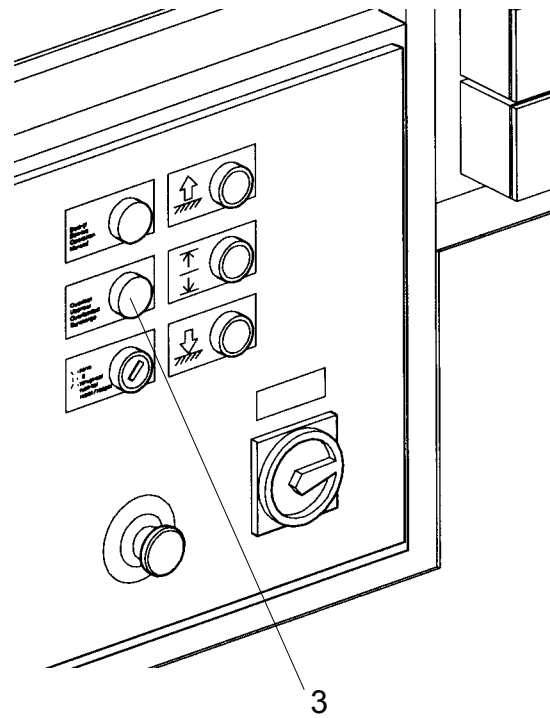

Fig.9-5 Control box
1. Load the platform to 1500 kg. The red warning lamp (fig. 9-5, 3) on the lifting platform should not yet light up.